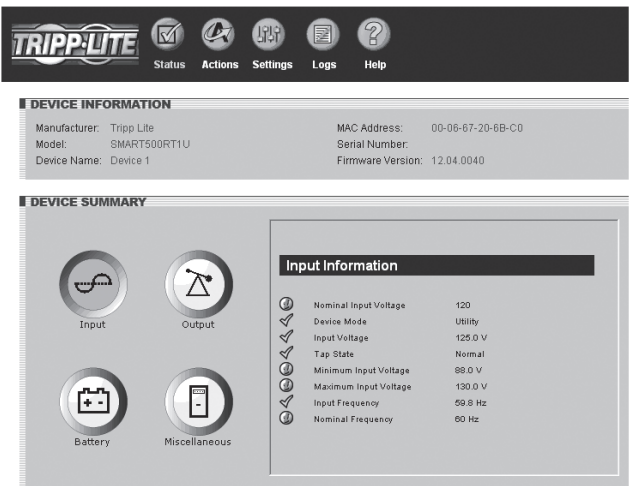

Figure 3-3: Status Page
4. After you enter the user name and password, the status page (Figure 3-3) will appear in the browser window.
Click the “Status” menu button to display the status page (Figure 3-3), which displays device information, device summary and alarm status. Four additional buttons within the window allow you to select information categories: input information, output information, battery information and miscellaneous information such as additional device information and system information. When you activate an information category, the button for that category changes from white to blue. The status of each information item is indicated by the icon next to the item.